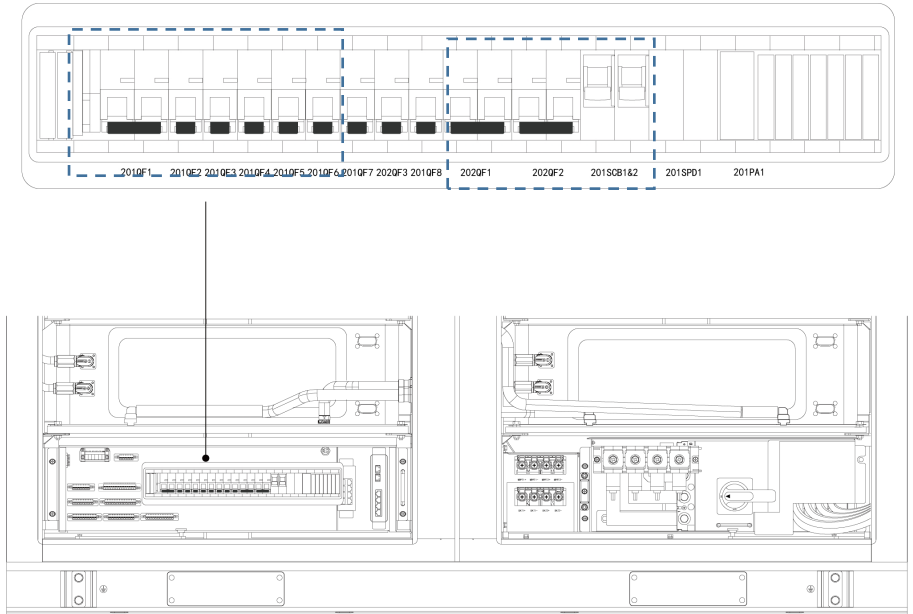
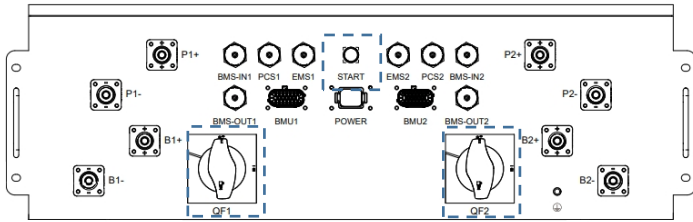

Figure.2
Figure.3
① Turn on the surge protection circuit breaker **201SCB1** and **201SCB2**. See the Figure.2.
- ② Attach to auxiliary power and external UPS. See the “How to position terminals related?” in the section 4.2.1. Verify that both the external AC auxiliary power input and the external UPS AC input voltages are within their specified normal ranges by utilizing a multi-meter.
- ③ Turn on the AC auxiliary power supply breaker **201QF1** and AC UPS breaker **202QF1**. See the Figure.2.
- ④ Turn on the lead-acid battery breaker **202QF3** and perform a vision inspection for the ring network switch by indicators' lighting up.
- ⑤ Turn on the PV power breaker **201QF2** after ensuring the voltage level of the external photovoltaic loop is within the normal range by utilizing a multi-meter. See the Figure.2.
- ⑥ Turn on the liquid cooling system breaker **201QF3**, DC auxiliary power breaker **201QF4**, fan breaker **201QF5** and dehumidifier breaker **201QF6**. See the Figure.2.
- ⑦ Press the **START** button, turn on the BAT MCCB **QF2** and **QF1** on the DC PDU. See the Figure.3. Measure the 24V DC voltage at the input of 202QF2, and verify the high-voltage box, battery pack power supply, and communication status. If all are normal, turn the DC auxiliary power breaker **202QF2**. See the Figure.2.